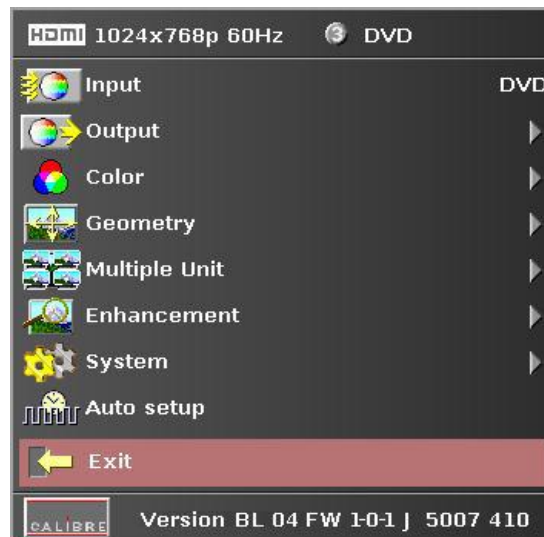

Figure 2
- a. In the top menu (figure 2 above), select 'multiple unit'